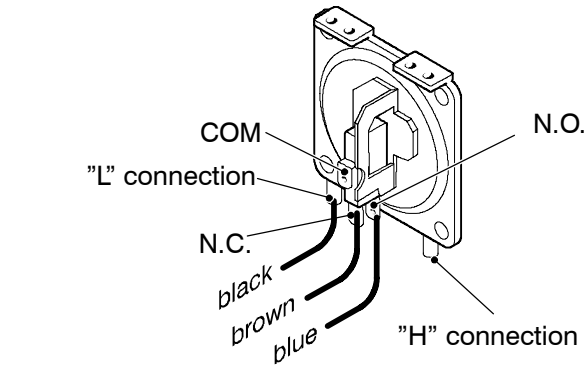
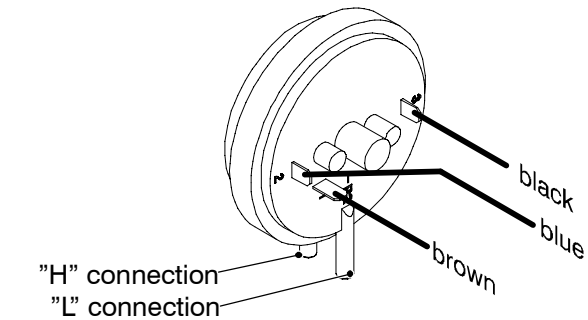
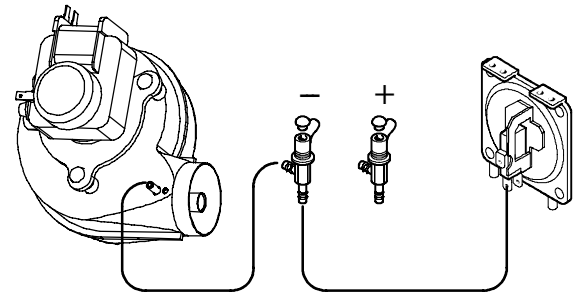

Fig. 70a
Fig. 70b
Fig. 73
Warning: to correctly connect the Air pressure switch, refer to Fig. 73 and Fig. 70a or Fig. 70b for the correct wiring.
Warning: to correctly connect the venturi device to the Air pressure switch, refer to Fig. 73.
- 2 Disconnect the wires and check the electrical resistance between the connections of the Air pressure switch. Refer to the Fig. 70a or b in accordance with the type of air pressure switch used.